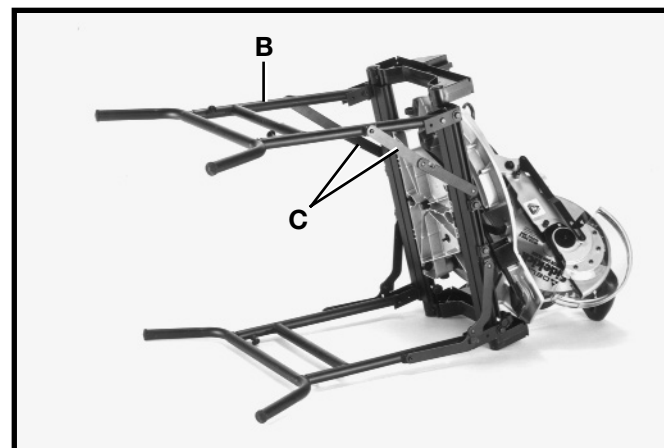

Fig. 6
2. Lift up and unfold left leg (B) Fig. 6, and lock in place by pushing inward on leg hinges (C).